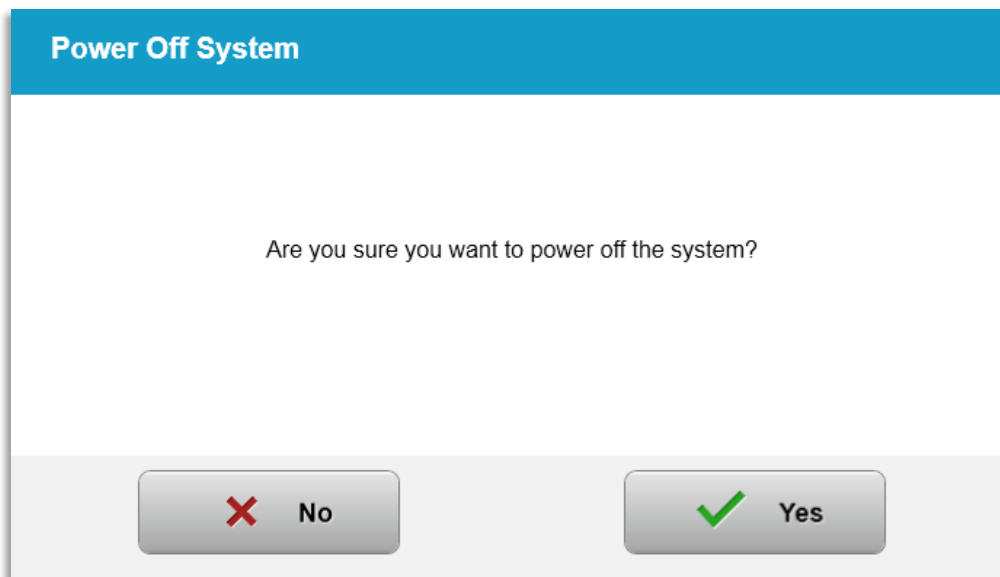

Figure 3-48. Confirm “Power Off”
- Confirm powering off system by selecting “Yes” as shown in Figure 3-48.